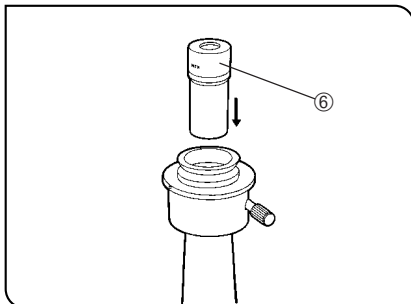

Fig. 8
2. Insert the selected photo eyepiece ⑥ into the adapter from the top, then align the index marking on the automatic exposure body with that on the adapter and clamp the automatic exposure body to the adapter. (Fig. 8)